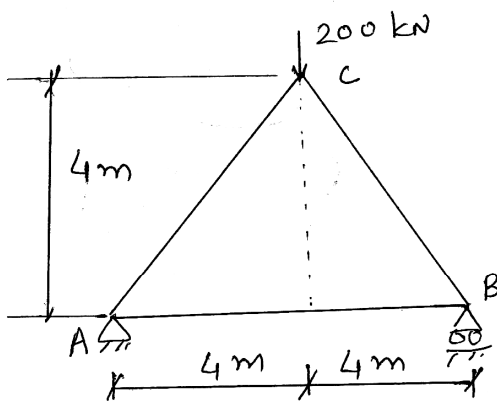

Fig. 5
- Q.4** For the plane truss shown in fig.5, determine the nodal displacements and **14**